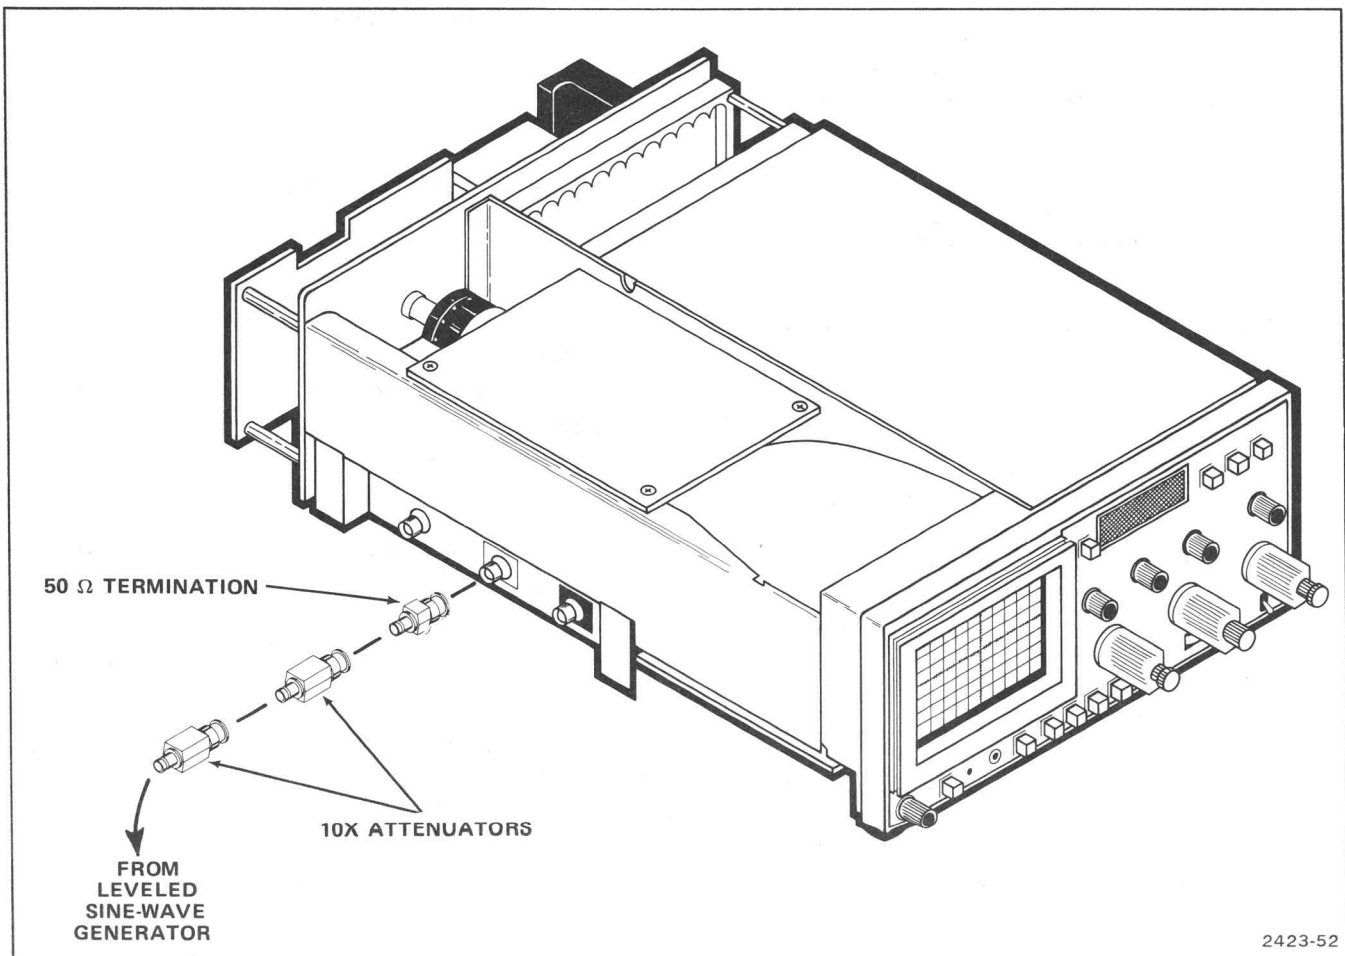

Fig. 4-2. Equipment setup for bandwidth check.
a. Connect equipment to CH 2 input as shown in Fig. 4-2. Add or remove attenuators as needed to maintain a 4-division display of the reference signal throughout the remainder of this step.